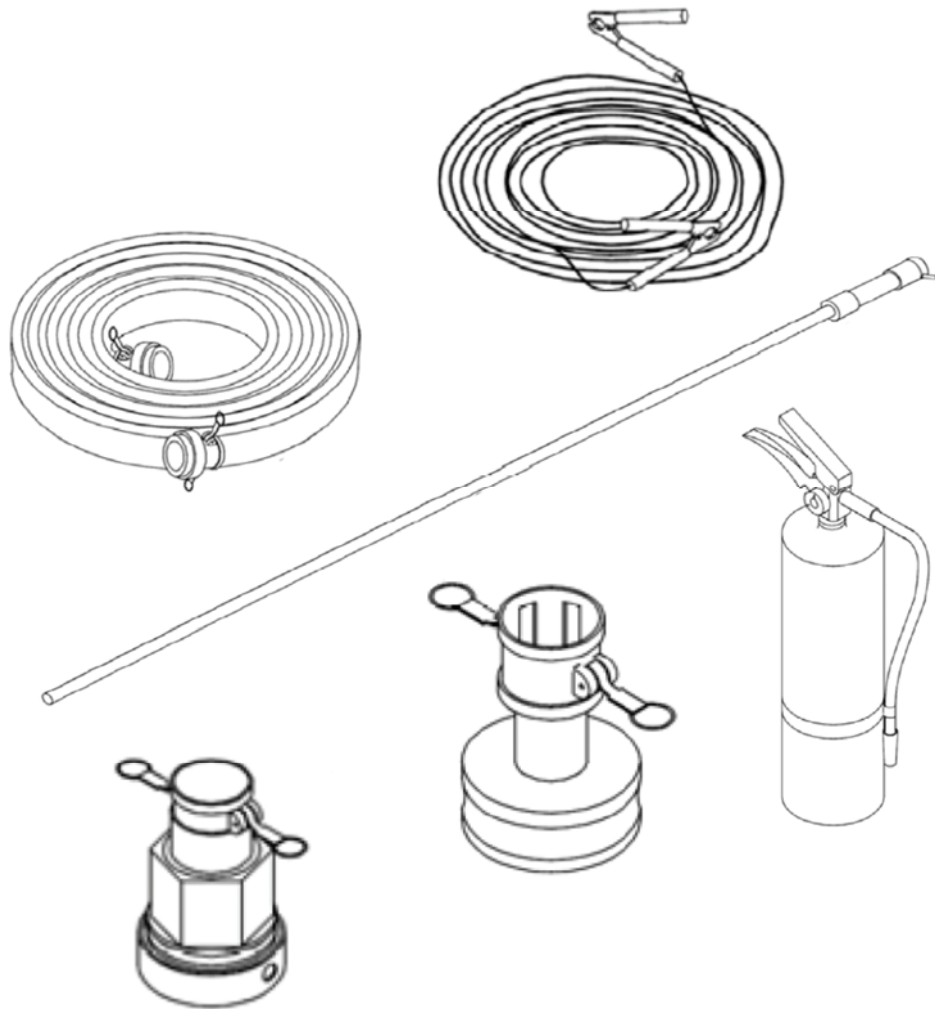
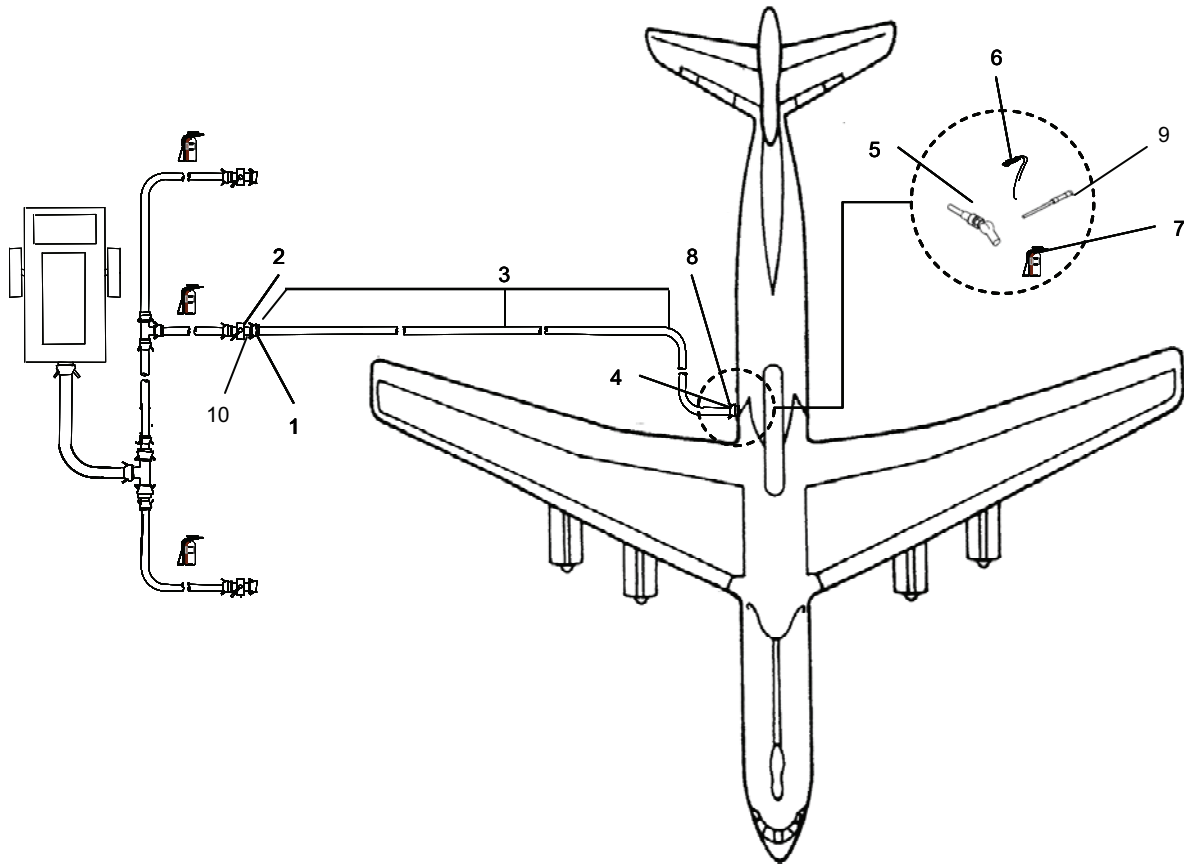

Figure 1. Wet Wing Defueling Assembly.
Figure 2. Wet Wing Defueling Assembly.
1. Remove the following wet wing defueling assembly components (Figure 1) from TRICON container 4, Intermediate Case 1, and place near defueling site:
2. Remove one 4 in. male X 3 in. unisex adapter (Figure 2, Item 1) from the wet wing defueling assembly.
3. Close and disconnect the D-1 Nozzle from the receipt line strainer assembly (Figure 2, Item 2).
5. Connect the 4 in. male X 3 in. unisex adapter (Figure 2, Item 1) to the strainer assembly (Figure 2, Item 2).
6. Connect one of the 3 in. X 50 ft. discharge hose (Figure 2, Item 3) to the 4 in. male X 3 in. unisex adapter (Figure 2, Item 1).
7. Connect the three remaining 3 in. X 50 ft. discharge hoses (Figure 2, Item 3) together towards the aircraft being defueled.
8. Connect the male end of the 3 in. X 50 ft. discharge hose (Figure 2, Item 3) to the 4 in. female X 3 in. unisex adapter (Figure 2, Item 4).
9. Connect the quick disconnect nozzle assembly D-1 nozzle (Figure 2, Item 5) to the 4 in. female x 3 in. unisex adapter (Figure 2, Item 4).
12. Attach ground cable clamps (Figure 2, Item 6) to ground rod (Figure 2, Item 9) and aircraft.
14. Bond and connect D-1 nozzle (Figure 2, Item 5) to aircraft fuel port (Figure 2, Item 8).
15. Open butterfly valve (Figure 2, Item 10) on receipt line.
2. Close butterfly valve (Figure 2, Item 10) on receipt line.
3. Disconnect D-1 nozzle (Figure 2, Item 5) from aircraft fuel port (Figure 1, Item 8) and replace dust covers appropriately.
4. Remove ground cable clamps (Figure 2, Item 6) from the aircraft.
5. Disconnect D-1 nozzle (Figure 2, Item 5) from the 4 in. female X 3 in. unisex adapter (Figure 2, Item 4).
6. Disconnect the 3 in. X 50 ft. discharge hose (Figure 2, Item 3) from the 4 in. female X 3 in. unisex adapter (Figure 2, Item 4).
7. Place dust caps and plugs on the 4 in. female X 3 in. unisex adapter (Figure 2, Item 4) and 3 in. X 50 ft. discharge hose (Figure 2, Item 3).
8. Disconnect remaining 3 in. X 50 ft. discharge hoses (Figure 2, Item 3).
9. Disconnect the 3 in. X 50 ft. discharge hose (Figure 2, Item 3) from the 4 in. male X 3 in. unisex adapter (Figure 2, Item 1).
10. Place dust caps on the 3 in. X 50 ft. discharge hose and the 4 in female X 3 in. unisex adapter (Figure 2, Item 1).
11. Disconnect the 4 in. male X 3 in. unisex adapter (Figure 2, Item 1) from the strainer assembly (Figure 2, Item 2).
12. Place dust caps on the 4 in. female X 3 in. unisex adapter (Figure 2, Item 4).
13. Connect D-1 nozzle to the strainer assembly (Figure 2, Item 2).